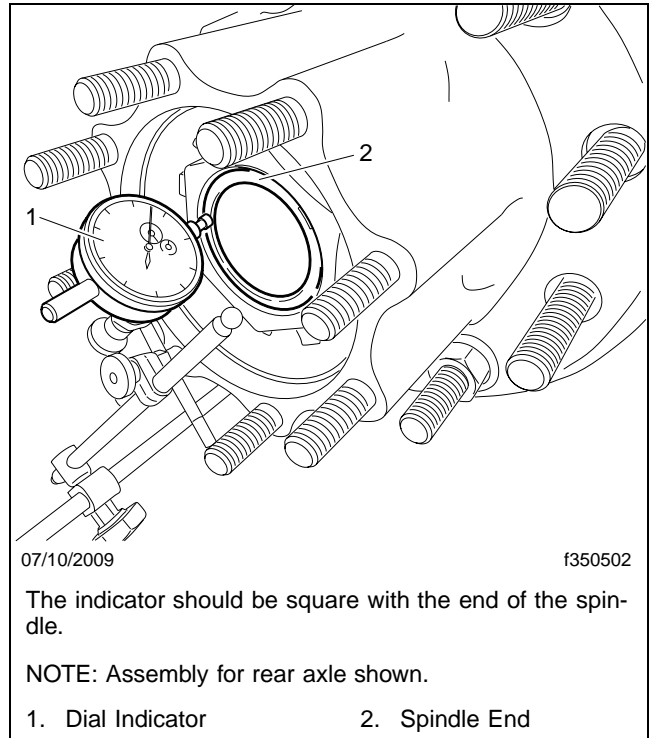

Fig. 31, Indicator Square with the Spindle (rear hub shown)
- 4.4 Set the measuring end of the indicator against the spindle end as shown in **Fig. 31**. The indicator should be square with the end of the spindle.